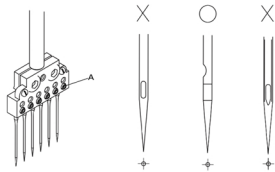

图8 (Fig.8)
1. 拧下螺钉(A)并取下针。(图8)
1. Loosen screw (A) and take out the used needle.(Fig.8)
2. Put new needle into the holder holes as they can go and left the long groove of needle face you and Fasten Screw (A)